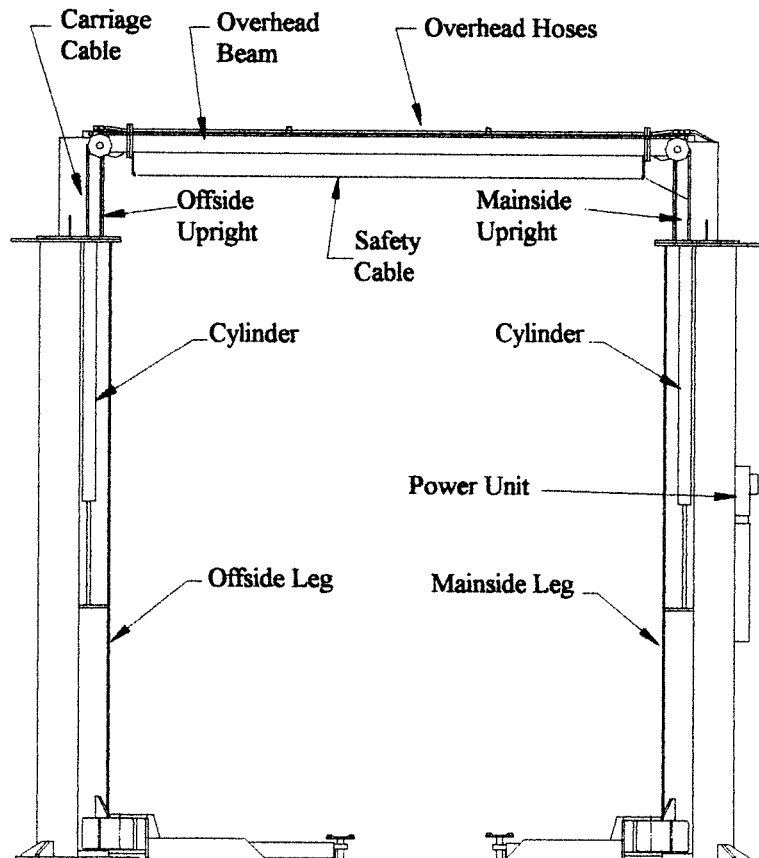

FIGURE 1
3. Refer to Figure 1 to see how the lift is assembled. Note that there is a mainside leg and upright, an offside leg and upright, two overhead ring weldments and an upright ring weldment to guide the overhead switch limit cable, and a system of hoses connecting the Cylinders and the power unit.